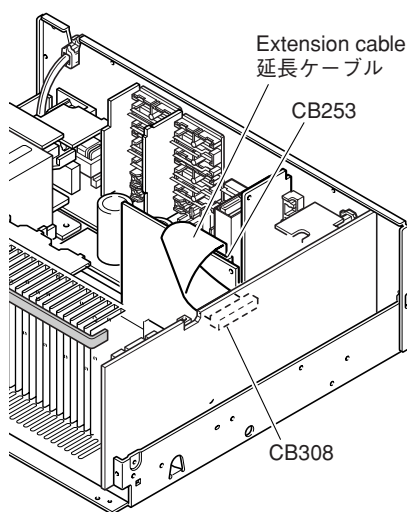

Fig. 9
- Replace the flexible flat cable connecting CB253 of MAIN (3) P.C.B. and CB308 or FUNCTION (1) P.C.B. with the extension cable specified below. (Fig. 9)
- MAIN (3) P.C.B.のCB253とFUNCTION (1) P.C.B.のCB308を接続するFLEXIBLE FLAT CABLEを、下記のサービス用延長ケーブルに交換します。(Fig. 9)